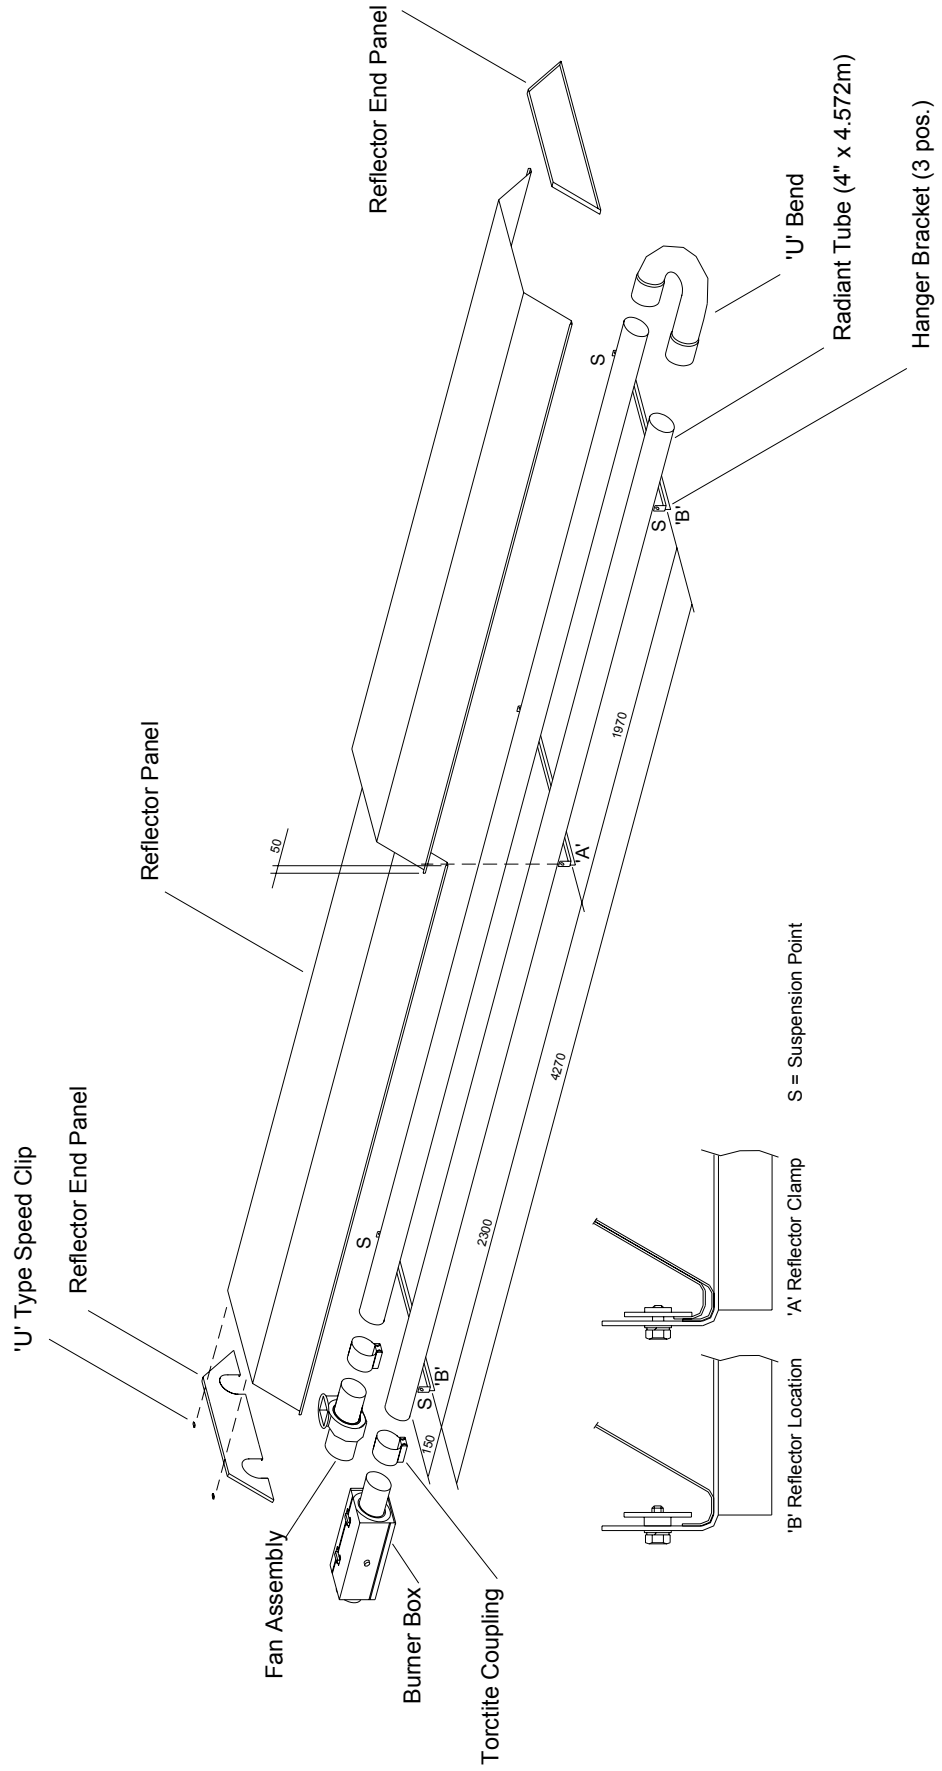

Fig. 19
- 6.3.2 Assemble the three Hanger Brackets to the Radiant Tubes using two U bolts per bracket (from fastenings pack) and position along the Radiant Tubes as shown in Fig 19. Tighten the nuts sufficiently to retain the Hanger Brackets. Do not over tighten.
- 6.3.5 Place the two Reflector Panels onto the Hanger Brackets and position to provide a 50mm overlap at the centre, arranged equally about the centre Hanger Bracket. Clamp the two Reflector Panels to the centre Hanger Bracket using two retainers and M6 setscrews and washers (fastening pack). Screw the remaining (4) retainers to the two outer Hanger Brackets to provide location for the Reflector Panel ends as shown in Fig. 19.
6.3.6 Position the Reflector End Panel (notched) over the Radiant Tubes and into the end of the Reflector Panel with the End Panel flange flush with the end of the Reflector. Secure the Reflector End Panel to the Reflector Panel by use of 6 - U type speed clips provided (fastenings pack); 2 clips per facet of Reflector Panel, as shown in Fig. 19.
6.3.7 The appliance should now be raised and suspended from previously fixed chains or drop rods as detailed in section 5.1, at suspension points indicated in Fig. 19. Rope or webbing slings should be used when lifting from above. If using a forklift to position the appliance, ensure that the appliance is balanced on the forks prior to lifting.